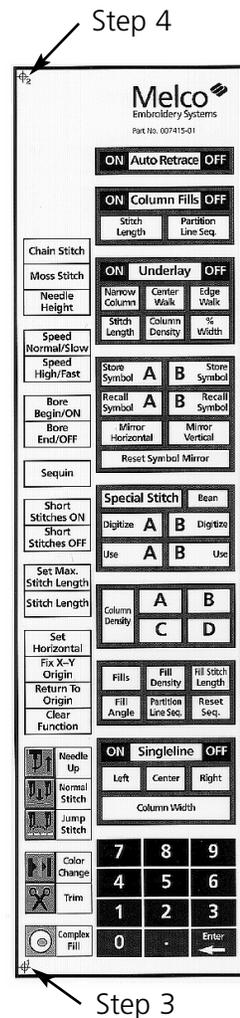

Figure 3-6
3. Position the tablet digitizer cursor crosshairs on the target (labeled #1) at the lower left corner of the menu (see Figure 3-6) and press the Mk1 button. You should hear the tablet "beep" when the button is pressed.
4. Next, move the tablet digitizer cursor crosshairs to the #2 target at the upper left corner of the menu (see Figure 3-6) and again enter a Mk1.